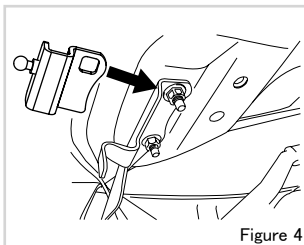

Figure 4
- Remove the upper nut securing the hood to the OEM hood hinge (see figure 4). Then mount the TEIN hood bracket to the OEM hood hinge with the ball joint facing outside of vehicle. Re-attach the OEM nut to the specified torque. Note - the TEIN hood damper sits against the OEM hood hinge and **NOT** between the hood and OEM hood hinge.